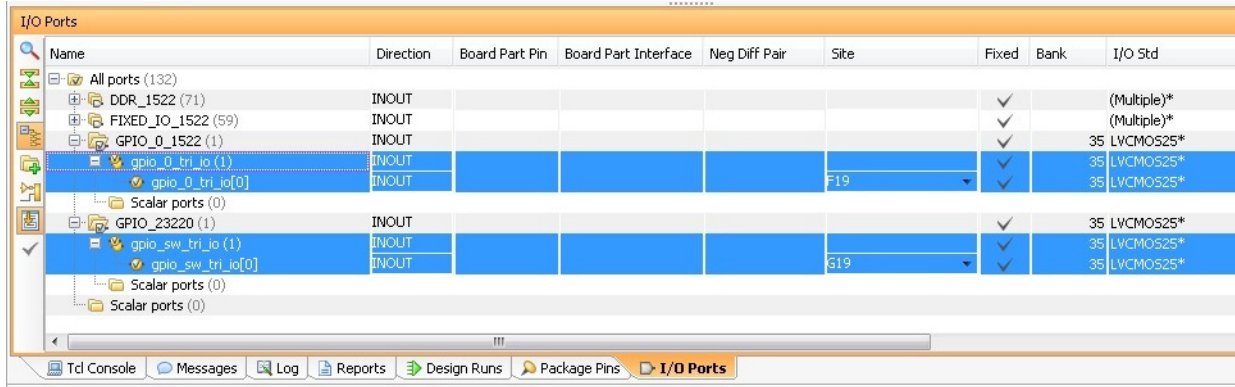

Figure 3-10: I/O Port Properties
29. Find **gpio_0_tri_io[0]** and set the following properties, shown in Figure 3-10:
30. Find **gpio_sw_tri_io[0]** and set the following properties, shown in Figure 3-10: